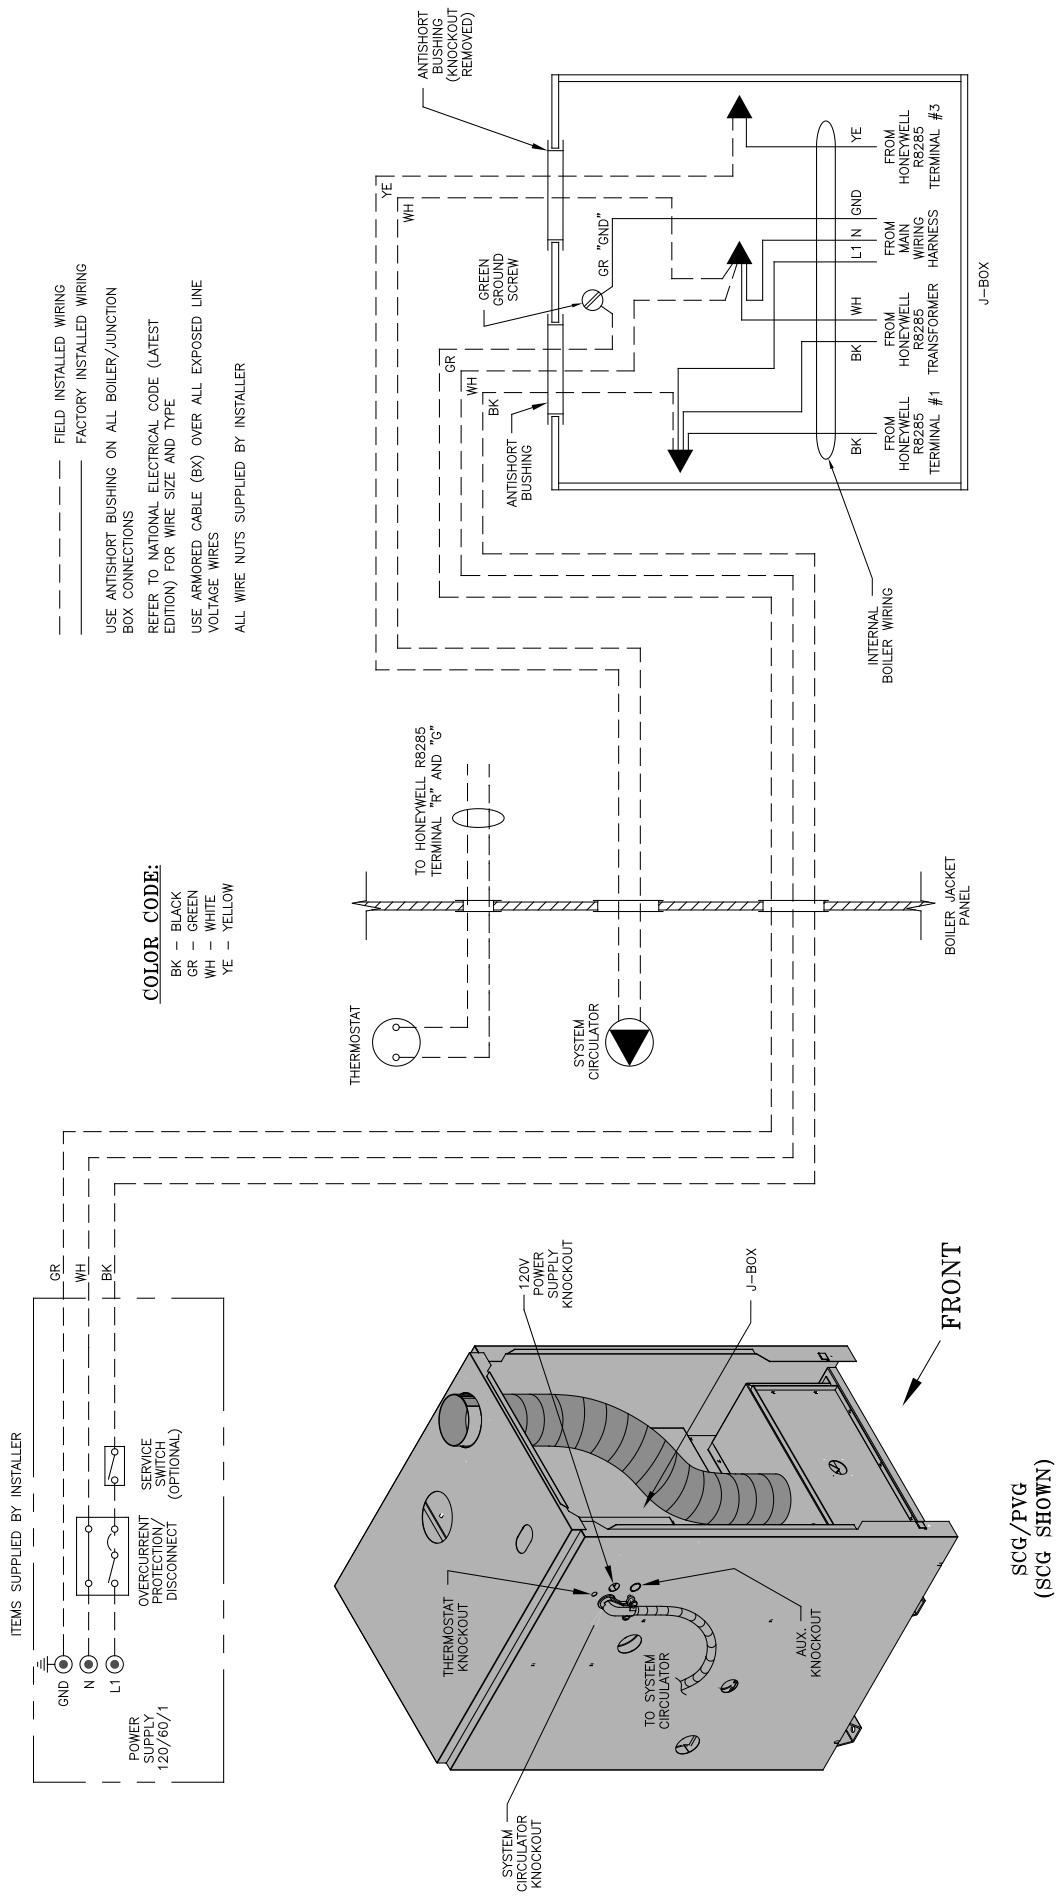

Figure 30: System Wiring Schematic for Single Zone Space Heating Only
3. Use armored cable (BX) over all exposed line voltage wiring.
5. Single Zone Heating System – Refer to Figure 30 of this manual for the electrical diagram for this type of system.